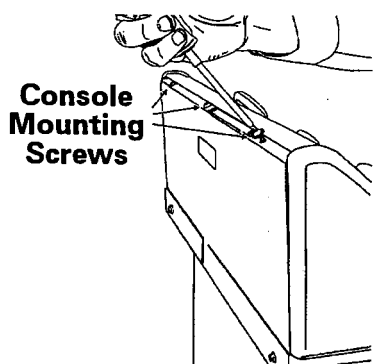

Figure 4-1
2. Remove the three screws securing the console rear cover plate across the rear top edge of the console, (See *Figure 4-1*).